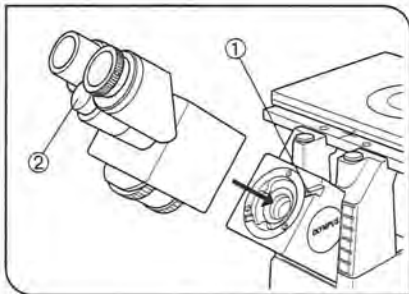
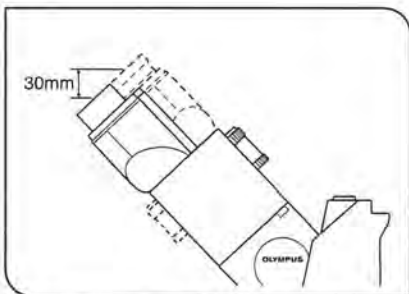

Fig. 96
Fig. 97
(Figs. 96 to 99)
(Figs. 96 & 97)
1. Using the Allen screwdriver, loosen the observation tube clamping screw ① on the observation tube mount. (Fig. 96)
2. Attach the circular dovetail mount of the observation tube into the observation tube mount, placing the observation tube so that the interpupillary distance scale numbers ② are seen right side up. Then tighten the clamping screw to clamp the observation tube.
- Ⓢ Normally, the distance from the surface of the desk to the eye point is approximately 430 mm. If it is desirable to lower the eye point position, the observation tube (provided it is other than the U-TBI90) may be detached, turned 180° and then attached on the observation tube mount again. This lowers the eye point height by approximately 30 mm. (Fig. 97)